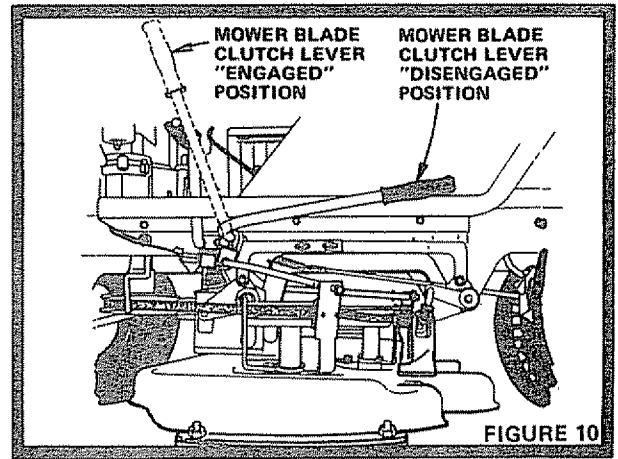
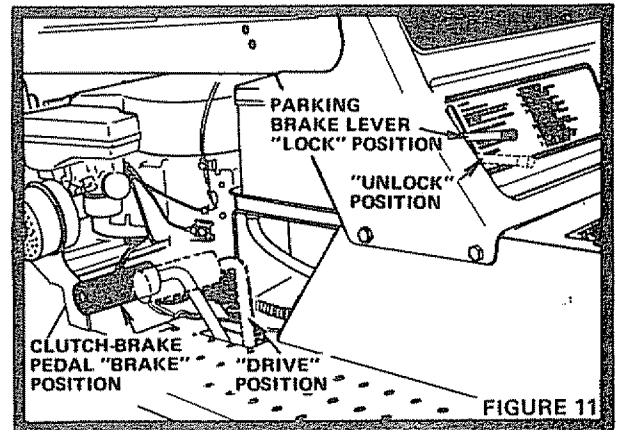
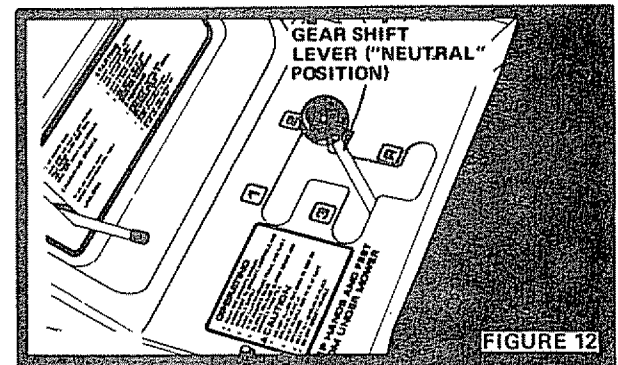

FIGURE 10
FIGURE 11
FIGURE 12
THIS TRACTOR IS EQUIPPED WITH INTERLOCK SWITCHES TO PREVENT STARTING OF THE TRACTOR ENGINE WHILE THE MOWER BLADE CLUTCH LEVER IS IN THE "ENGAGED" POSITION (FIG. 10) AND/OR THE GEAR SHIFT LEVER IS NOT IN "NEUTRAL" POSITION (FIG. 12). IMMEDIATELY REPLACE SWITCHES THAT ARE NOT IN PROPER WORKING ORDER. DO NOT ATTEMPT TO DEFEAT THE PURPOSE OF THESE SWITCHES.
- a. Shift lever to neutral (Fig. 12).
- b. Set parking brake (Fig. 11).
- c. Disengage attachment clutch (Mower Blade Clutch Lever) (Fig. 10).
1. Disengage Mower Blade Clutch Lever (Fig. 10).
2. Depress Clutch-Brake Pedal fully. Raise Parking Brake Lever and hold in "LOCK" position (Fig. 11). Release Clutch-Brake Pedal.
3. Place Gear Shift Lever in "NEUTRAL" position (Fig. 12).
3. Push Clutch-Brake Pedal down firmly to "UNLOCK" Parking Brake (Fig. 11).
4. Move Gear Shift Lever to "1ST" Gear (Fig. 12).
NOTE: ALWAYS OPERATE ENGINE AT FULL ENGINE RPM WHEN MOWING TO ASSURE BETTER MOWING PERFORMANCE, LONG ENGINE LIFE AND PROPER DISCHARGE OF CUT MATERIAL. REGULATE GROUND SPEED BY SELECTING A LOW ENOUGH GEAR (FIG. 12) TO GIVE THE MOWER CUTTING PERFORMANCE PLUS QUALITY OF CUT DESIRED
3. Place Parking Brake in "LOCK" position. Raise Parking Brake Lever and hold in "LOCK" position (Fig. 11). Release Clutch-Brake Pedal.
For pushing or towing your tractor, place Gear Shift Lever in "NEUTRAL" position (Fig. 12). Push Clutch-Brake Pedal down firmly to "UNLOCK" Parking Brake (Fig. 11). NOTE: DO NOT TOW YOUR TRACTOR FASTER THAN SIX MILES PER HOUR.